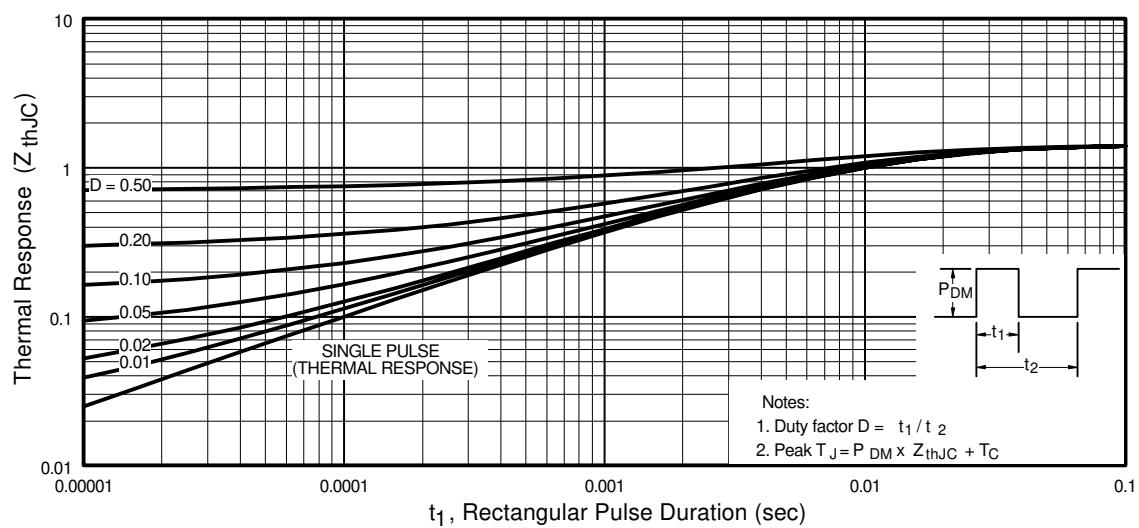

Fig 11. Maximum Effective Transient Thermal Impedance, Junction-to-Case
- ① Repetitive rating; pulse width limited by max. junction temperature. (See Fig. 11)
- ② $V_{\text{DD}} = -25\text{V}$, starting $T_J = 25^\circ\text{C}$, $L = 2.1\text{mH}$